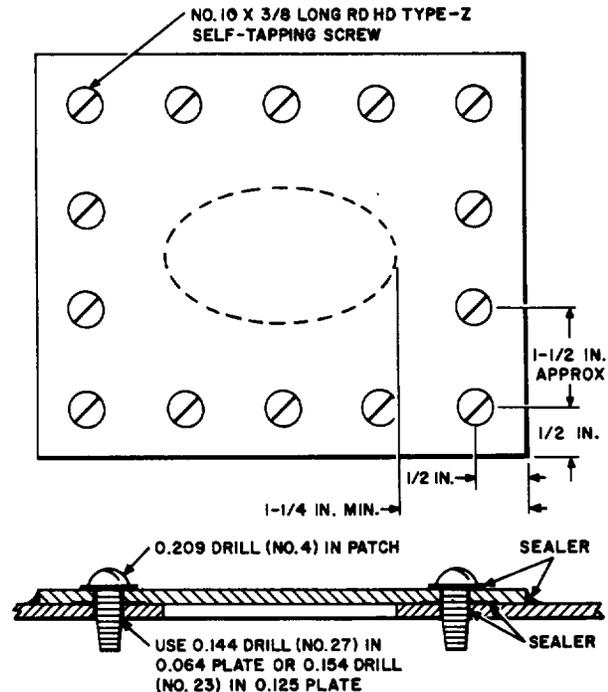

Fig. 2—Laying out Hole Pattern in Patch
4.04 Lay out the hole pattern in the patch as shown in Fig. 2, and drill pilot holes in the patch with the No. 29 drill. Remove burrs from back of patch. Make sure all edges are smooth.
4.05 Fasten the patch in position with Scotch Tape and drill through both patch and skin with the drill indicated in Fig. 2 for the skin thickness being repaired. It is most important that metal chips be prevented from falling into the antenna. Drilling should be done in short steps, brushing aside chips at frequent intervals. The drilling should be discontinued before the break-through point and the break through completed with the prick punch.